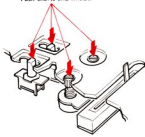

Fig. 2-6.
Note: In step ⑤, it is good help to push variable resistor shafts (BASS and TREBLE) and toggle switch knobs (LOUDNESS and LIGHT) as shown in Fig. 2-6. below.